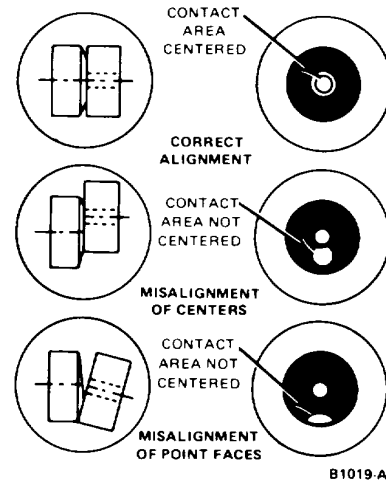

FIG. 8. Checking Breaker Point Alignment
1. Turn the cam so that the breaker points are closed and check the alignment of the points (Figure 8). If the distributor is in the engine, close the points by proceeding as follows: 1. With the ignition switch off and the primary wire disconnected from the coil, crank the engine with an auxiliary starter switch.